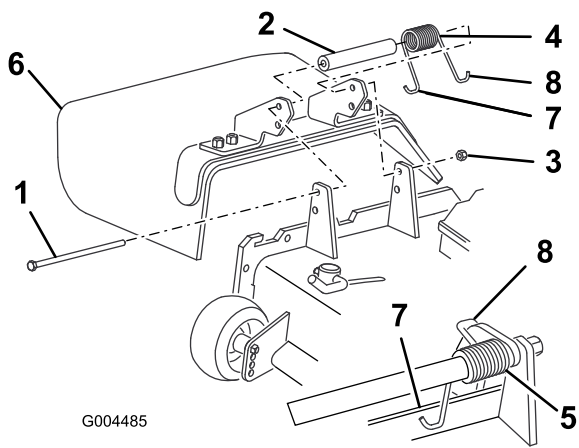

Figure 76
- Remove the locknut, bolt, spring and spacer holding the deflector to the pivot brackets (Figure 76).
- Place the spacer and spring between the replacement grass deflector brackets (Figure 76).
Note: Make sure the left J-hook end of the spring is installed behind the deck edge before installing the bolt as shown in Figure 76.
Note: Place the right J-hook end of the spring around the grass deflector (Figure 76).